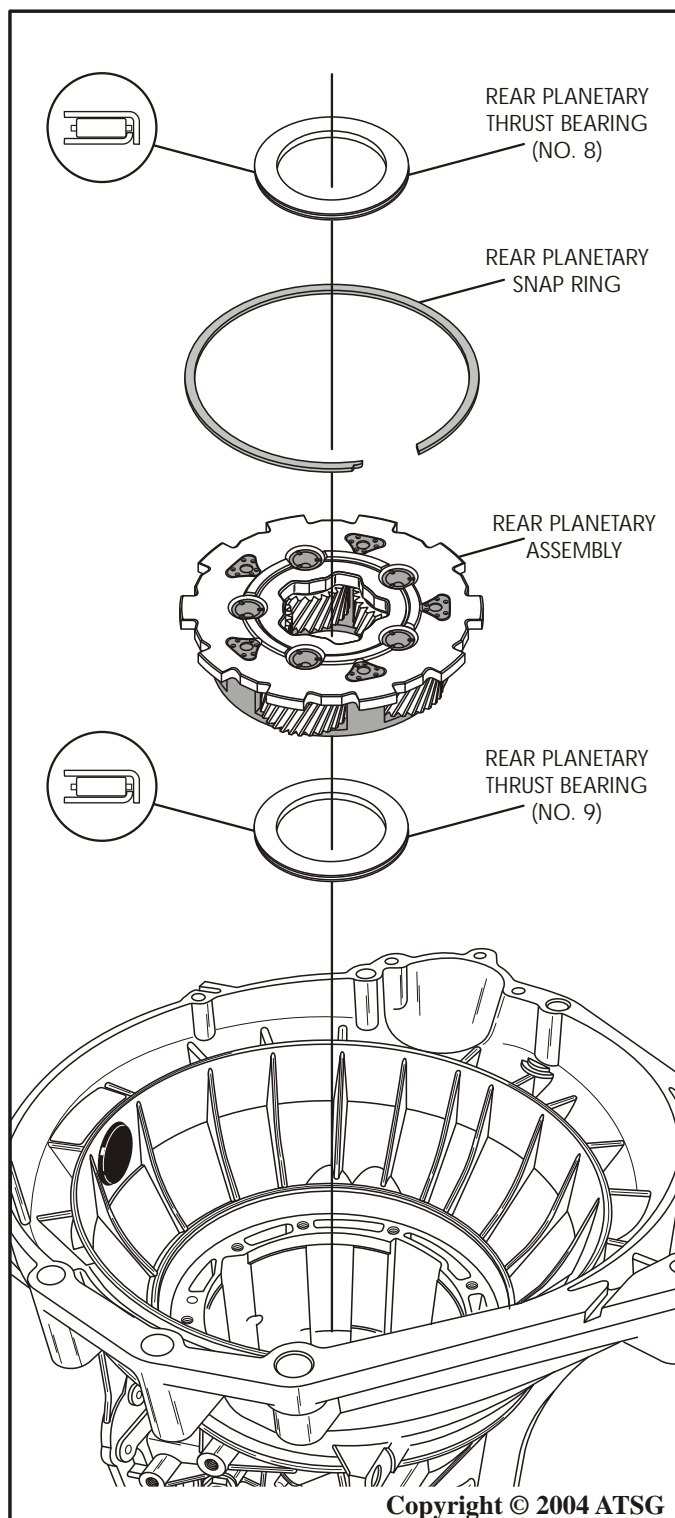

Figure 143
16. Install the rear planetary thrust bearing (No. 9) on top of rear ring, in the direction shown in Figure 143, and retain with small amount of Trans-Jel®.
17. Install the rear planetary carrier assembly, as shown in Figure 143, by rotating into position until fully seated.
18. Install the rear planetary carrier snap ring into groove in the reverse drum and ensure that it is fully seated (See Figure 143).